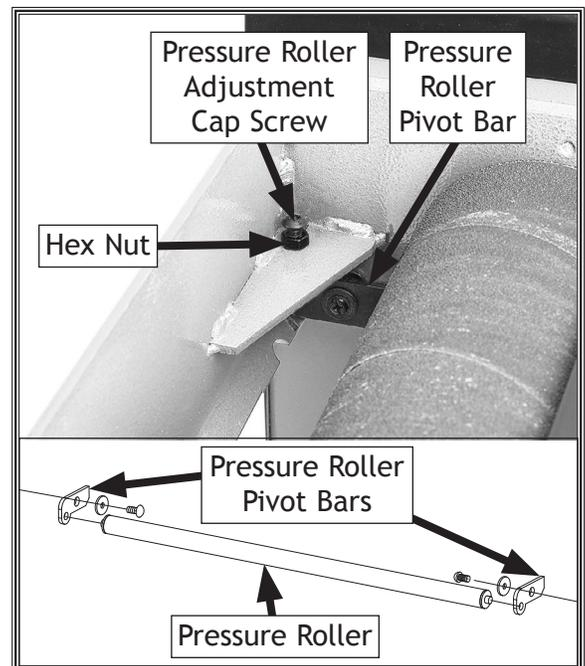

Figure 46. Front pressure roller adjustments and pressure roller overview.
2. Loosen hex nut securing adjustment cap screws on both ends of rear pressure roller shown in **Figure 46**.